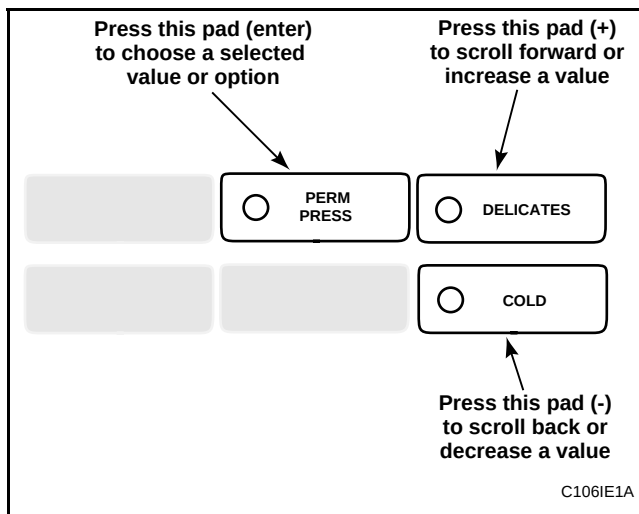

Figure 105
5. Press the DELICATES (+) or the COLD (-) keypad to increase or decrease the year until correct. See **Figure 105**.